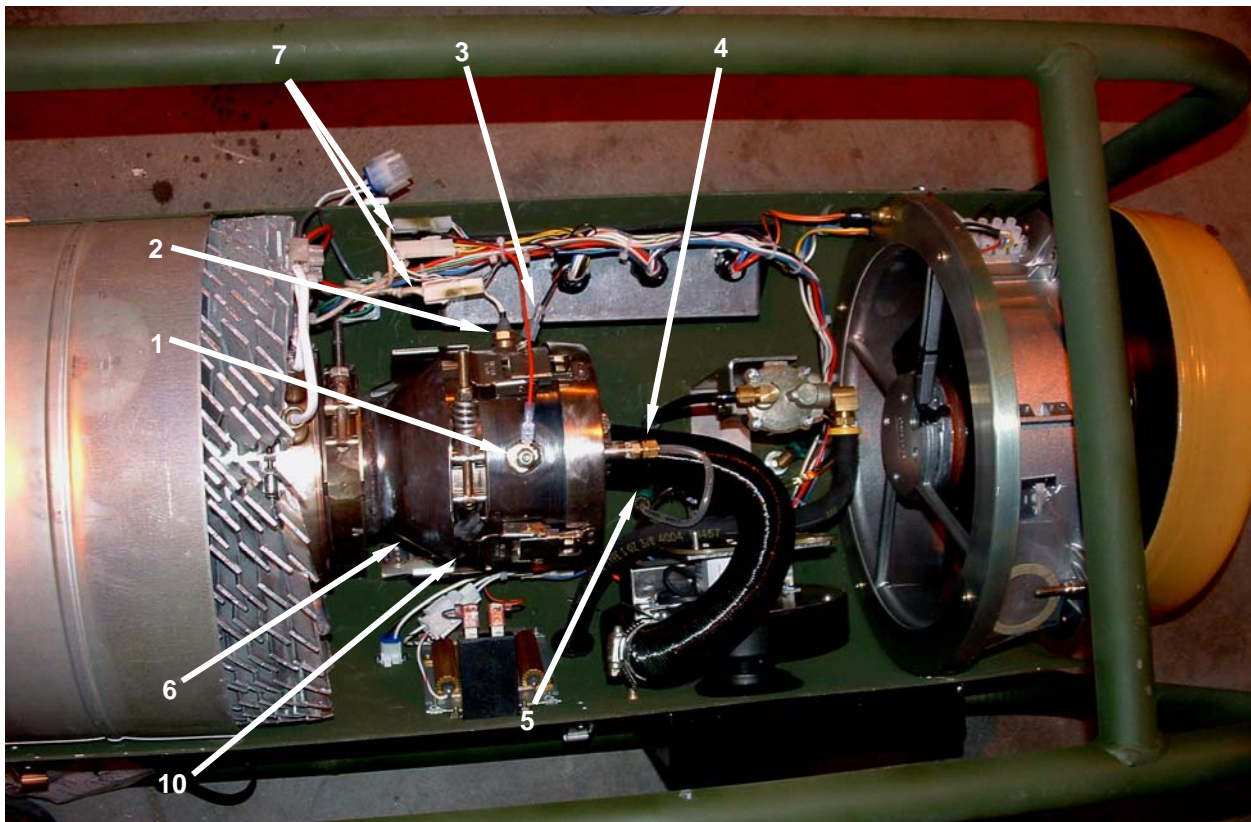
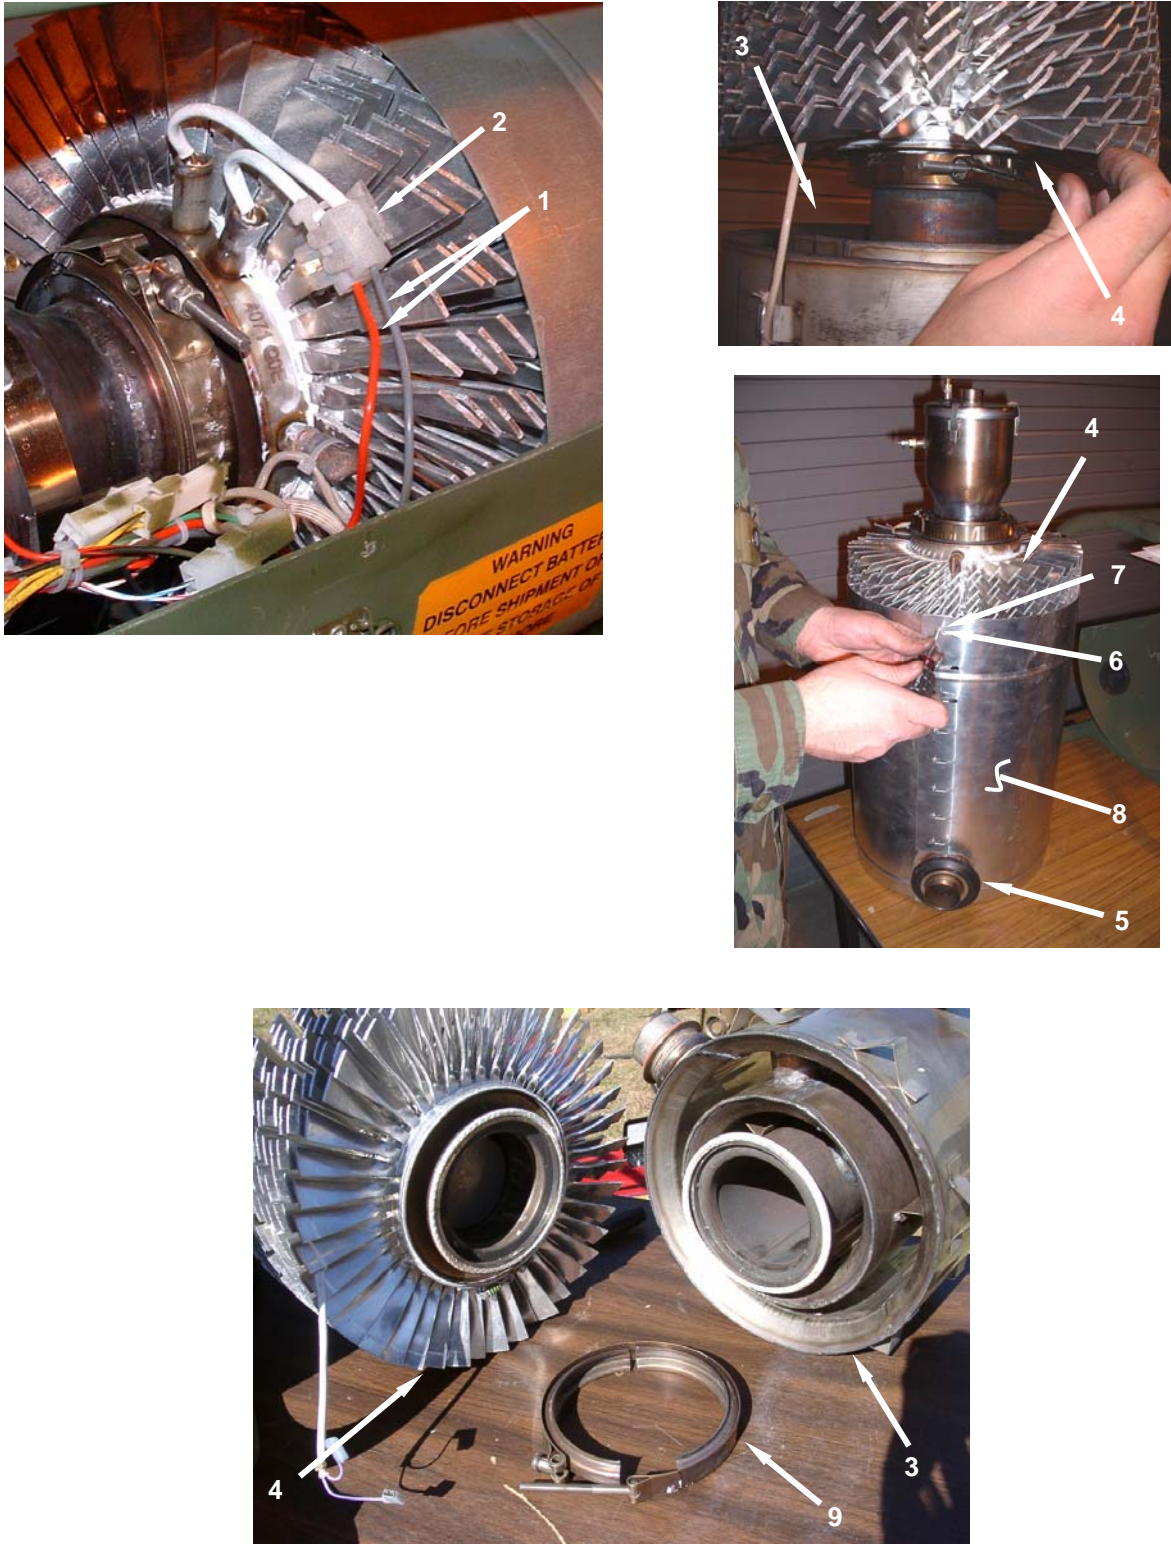

Figure 1. Remove Thermoelectric Generator (TEG).
Figure 2. Thermoelectric Generator (TEG) Removal.
3. Tag and disconnect the glow plug wire (**Figure 1, Item 1**), flame sensor connector (**Figure 1, Item 2**), ground wire (**Figure 1, Item 3**), fuel line (**Figure 1, Item 4**), and combustion air blower hose (**Figure 1, Item 5**) from the burner assembly (**Figure 1, Item 6**).
4. Tag and disconnect the two TEG electrical connectors (**Figure 1, Items 7**).
5. Tag and disconnect the two wires (**Figure 2, Item 1**) going into the modular connector (**Figure 2, Item 2**) on the side of the TEG by loosening the two bottom screws. Do not loosen the top screws for the wires that enter the interior of the TEG.
6. Loosen the clamp (**Figure 1, Item 10**) retaining the burner assembly (**Figure 1, Item 6**) and lift assembled burner, heat exchanger (**Figure 2, Item 3**) and TEG (**Figure 2, Item 4**) and remove from heater. Place on an appropriate work surface. Take care not to bend any of the fins on the TEG.
7. Remove the exhaust grommet (**Figure 2, Item 5**) by stretching the grommet over the ridge and sliding down and off the combustion exhaust outlet. Set the grommet aside.
8. Stand the assembled burner, heat exchanger, and TEG on end, and remove sheet metal screws (**Figure 2, Item 6**) and washers (**Figure 2, Item 7**) from wrap cover (**Figure 2, Item 8**) and set aside.
9. Carefully remove the wrap cover (**Figure 2, Item 8**) and set aside.
10. Loosen and remove flange clamp (**Figure 2, Item 9**) between the heat exchanger (**Figure 2, Item 3**) and the TEG (**Figure 2, Item 4**).
11. Separate TEG (**Figure 2, Item 4**) and heat exchanger (**Figure 2, Item 3**).
13. Remove and discard all pieces of old graphite ribbon tape that may adhere to the inside surface of both flange clamps (**Figure 2, Item 9**) and to the outside of the TEG, heat exchanger, and burner assembly flanges.